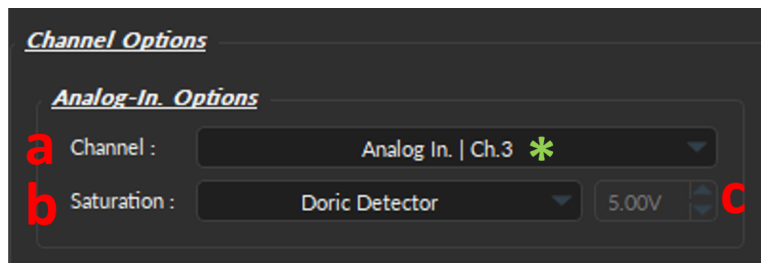
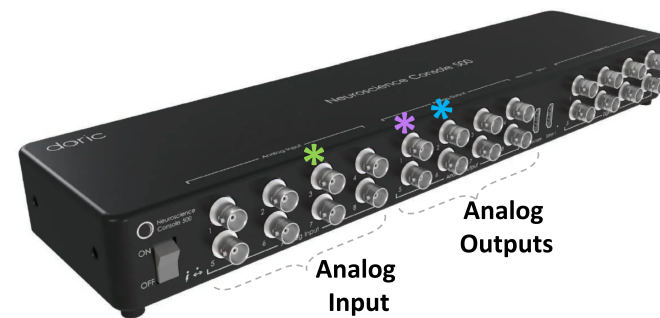

Figure 16.79: LockIn, Channel Options
Figure 16.80: LockIn, NC500 ports
- a) The **Channel** (Fig. 16.79, a) identifies which of the NC500 ports receives the **analog input** data from the sensor/device (Fig. 16.80).
- b) The **Saturation** (Fig. 16.79, b) specifies the detectors used to collect the **Analog Input** data and automatically set its corresponding **Maximal Voltage** value (Fig. 16.79, c) that saturates it. Choosing the right detector is important as different detectors are saturated at different voltage levels (Table 16.2). If none of the common detectors are collecting data, use the **AIN** option to set the NC500 **Maximum Voltage** (10V), or the **Custom** option to set it between 0V and 10V.
- c) The **Maximum Voltage** (Fig. 16.79, c) displays the values at which preset detectors are saturated (Table 16.2). This value is used to warn users when the collected signal is saturating the detector, as in Fig. 16.18.